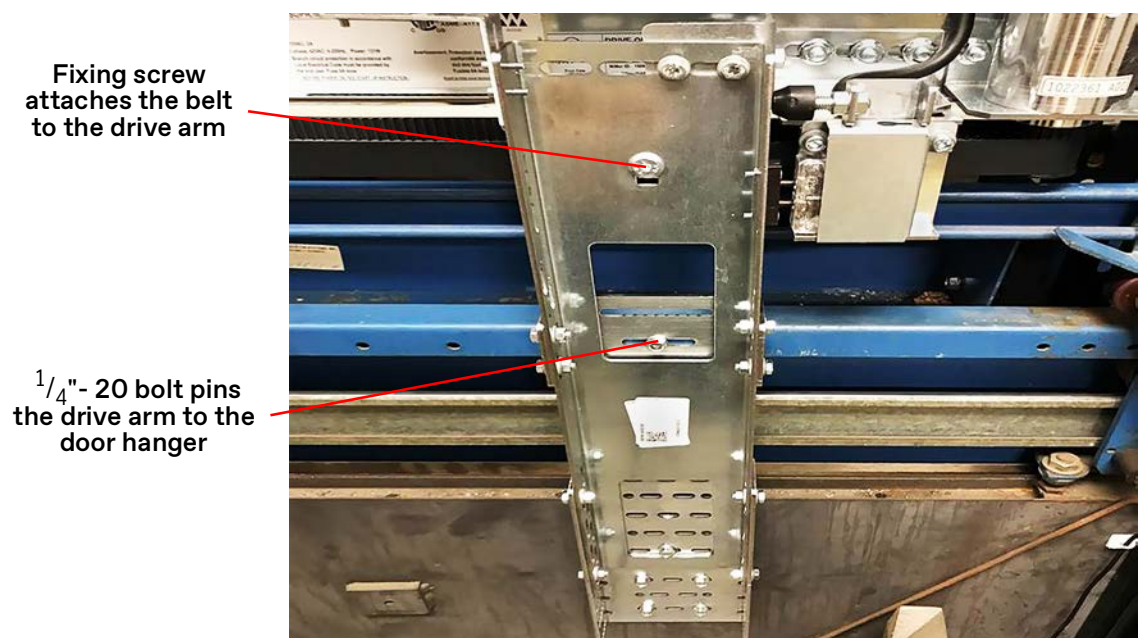

Figure 11 - Pin the Drive Arm/Completed Belt Installation
10. Use a  $\frac{1}{4}$ " - 20 bolt to pin the drive arm to the door hanger to increase the strength of the drive arm. See Figure 11.